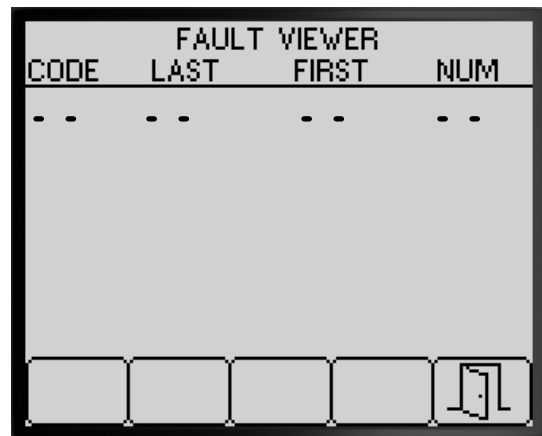

Figure 87
- Review the fault viewer for sprayer system generated faults (Figure 87).
- Press button 5 to exit the FAULT VIEWER screen, and return to the DIAGNOSTIC screen (Figure 87).
4. Press button 5 to exit the ABOUT screen, and return to the DIAGNOSTIC screen (Figure 87).